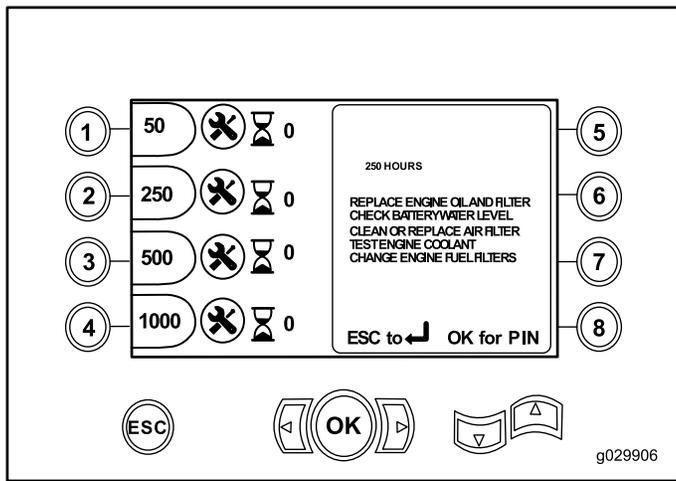

Figure 13
- Button 2—250-hours (Figure 13)